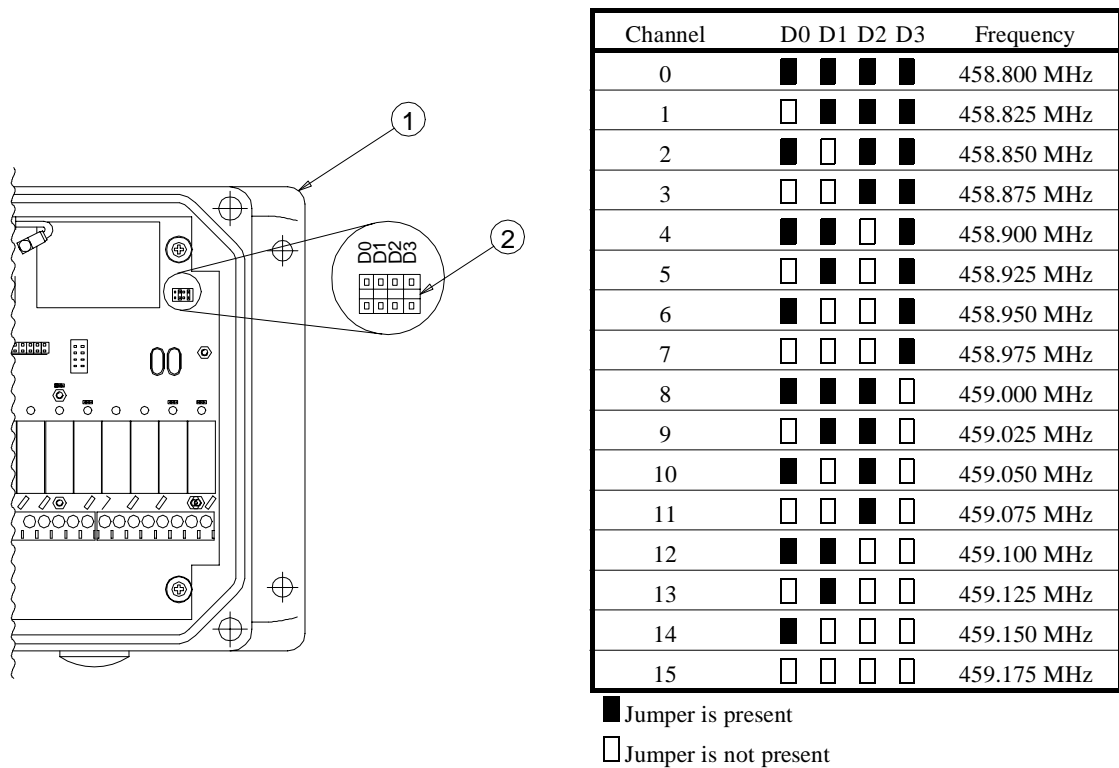

Figure 2.17: Receiver Frequency Channel Diagram
The PulseStar•jr. transmitter and receiver operate over the 400—470 MHz frequency range (70-cm band). There are 16 possible frequencies and 16 corresponding channels available. Figure 2.17: Receiver Frequency Channel Diagram shows each channel, its respective frequency, and the position of the five jumpers according to the diagram for the frequency channel you are setting.
2. Reference Figure 2.17: Receiver Frequency Channel Diagram to locate the Frequency Channel Jumper Block inside the receiver.
3. Set the frequency channel jumpers according Figure 2.17: Receiver Frequency Channel Diagram for the frequency channel you are setting for the receiver. A black box indicates that a jumper should be present in that position. A white box indicates there should be no jumper present in that position.